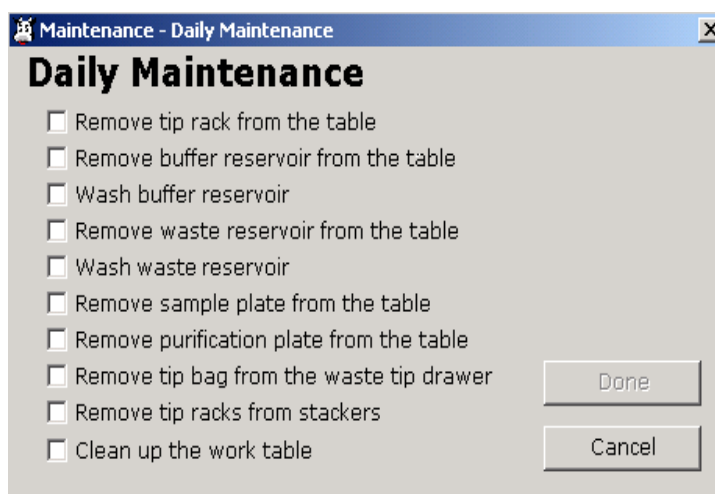

Fig. 10.1-1 : Daily Maintenance screen
- (1) Select “Daily” from the “Maintenance” in the menu bar (Fig. 10.1-1).
- (2) If you try to close the NSP application software without carrying out daily maintenance, a message will be displayed with a warning sound. Operator will be then invited to perform the Daily Maintenance.
- (1) As each maintenance function is carried out, add a check mark in front of the maintenance item displayed on the Daily maintenance screen by clicking the box in front of that item (Fig. 10.1-1).
- (2) When all maintenance functions have finished, confirm that all boxes have a check mark and then click "Done".
- (3) Completion of Daily maintenance will be recorded.